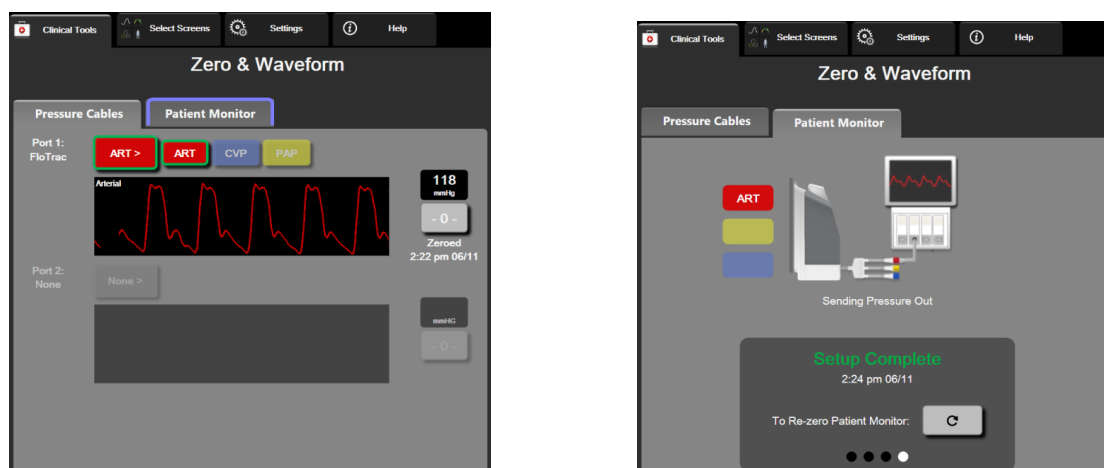

Figure 10-2 Zero & Waveform screens – Zero sensor and Pressure-Out
- 5 Touch the **Transmit Waveform** icon  to begin pressure signal output to the patient monitor. A “**Setup Complete**” message will be displayed when the live waveform is being transmitted to the connected patient monitor. See right screen shown in figure 10-2 on page 174.